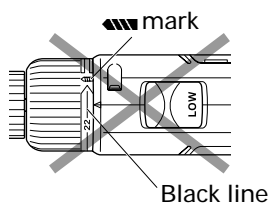

Fig. 10
- Do not use with the cap set at the black line between the number "22" and the drill mark "▲". Doing so may cause damage. (See Fig. 10)